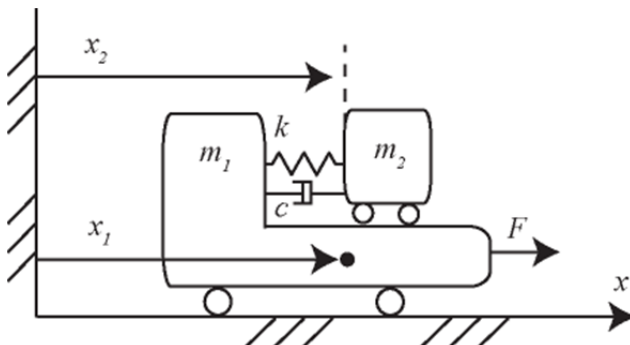

Fig. 3: A lumped mass model of a positioning system.
3. A positioning system can be modeled as a lumped mass model in Fig.3, when its moving mass m_1 has a component m_2 . Spring constant k and damping coefficient c represent the mechanical connection of these masses. The values of these parameters are given in Table1.